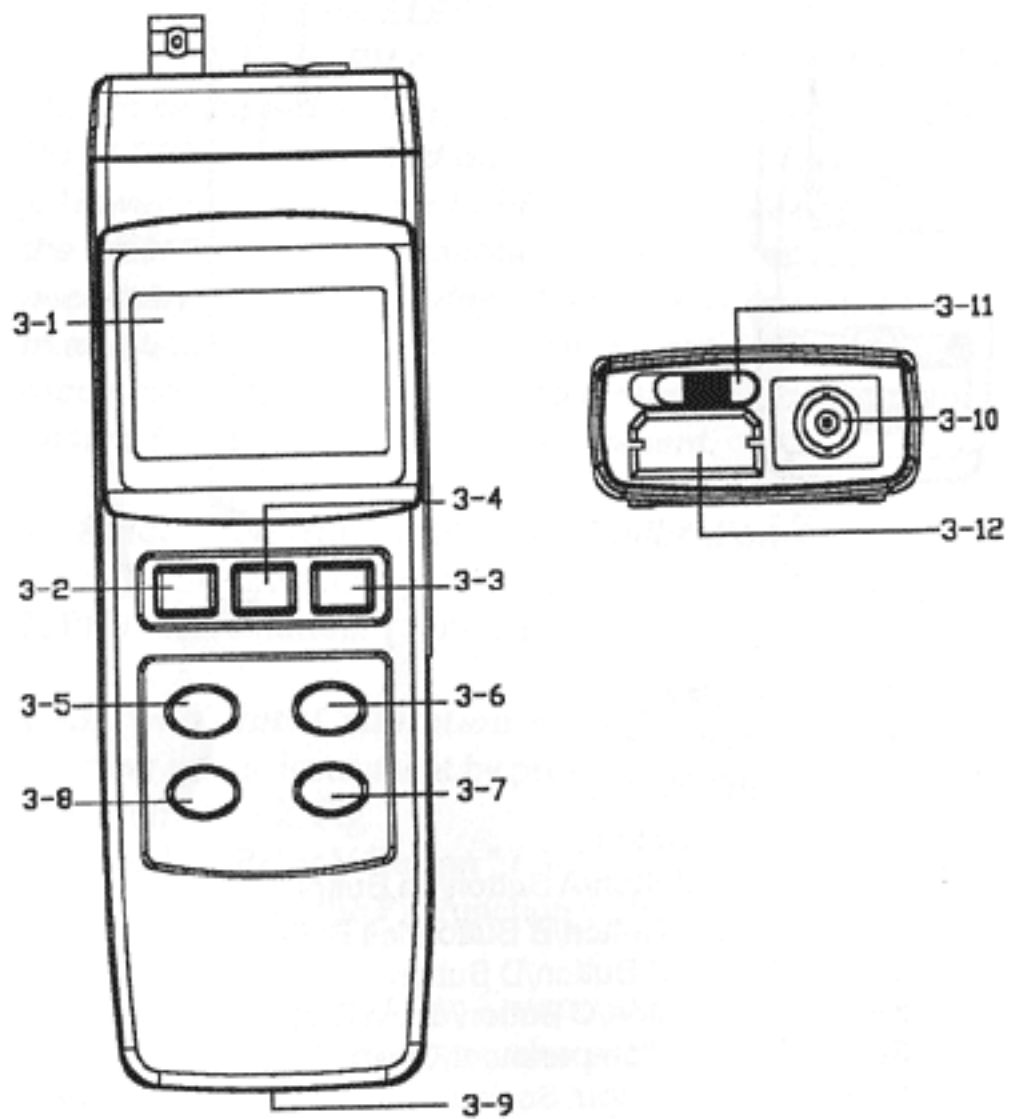

Fig. 1
- 1) Power on the instrument by pressing the " Power Button " (3-2, Fig. 1).
- 2) Press the " PH/mV Button " (3-6, Fig. 1) to let meter be operated under the PH function with a " PH " symbol on the display.
Connect the PH ELECTRODE with the " BNC socket " (3–10, Fig. 1) and immerse the electrode in the PH7 buffer solution.
Press the " CAL Button " (3–8, Fig. 1) then the upper display shows texts of " CAL " and the lower display shows the default calibration value.
- 1) Connect the PH ELECTRODE to the " PH BNC Input Socket " (3-10, Fig. 1).
- 2) Power on the instrument by pressing the " Power Button " (3-2, Fig. 1).
- 3) Press the " PH/mV Button " (3-6, Fig. 1) to select the PH function with a "PH" symbol on the display
Before the manual temperature compensation calibration procedures, please make sure there are no ATC probe (YK-200ACT) in the " Optional Probe Input Socket" (3-11, Fig. 1).
- 2) Press the " PH/mV Button " (3-6, Fig. 1) to select the PH function with a " PH " symbol on the display
- 3) " TEMP. C Button " (3-7, Fig. 1) is used to adjust the following values :
- * Press the " TEMP. C Button " (3-7, Fig. 1) first, The upper display will show the measured PH values. the lower display will show the manual temperature compensation value.
- @ Use the " Left Button " (3-6, Fig. 1), " Up Button " (3-5, Fig. 1) and the " Down Button " (3-8, Fig. 1) to adjust the manual temperature compensation value.
- * When the manual temp. compensation values be adjusted. Press the " TEMP. C Button " (3-7, Fig. 1) once again to adjust the PH 4 default calibration value. The upper display will show the values of " 4.00 " and the lower display will show the " PH 4 default calibration value ".
@ Use the " Up Button " (3-5, Fig. 1) and the " Down Button " (3-8, Fig. 1) to adjust the PH 4 default calibration value.
- * When the PH 4 default value be adjusted. Press the " TEMP. C Button " (3-7, Fig. 1) once again to adjust the PH 7 default calibration value.